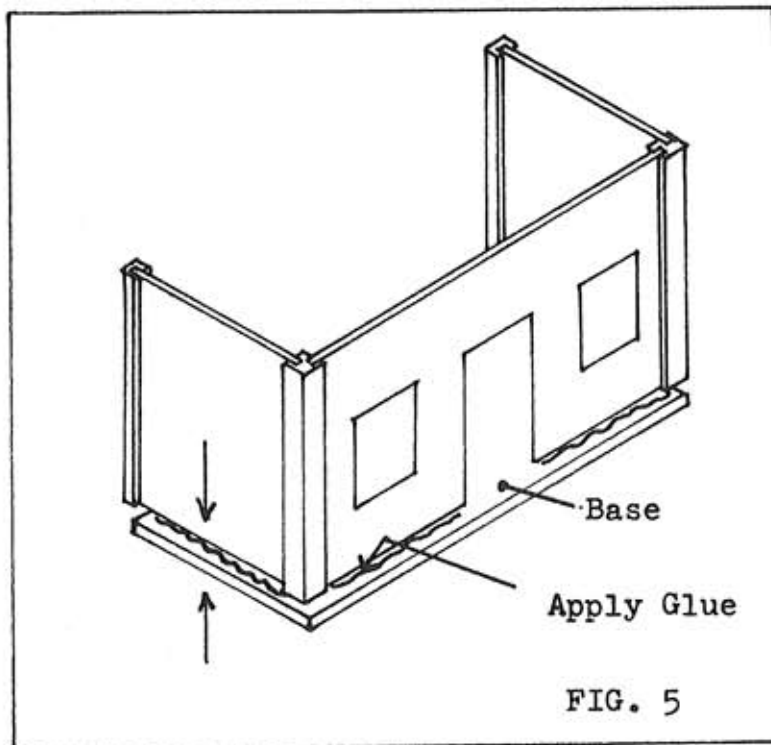

FIG. 5
13.) Fit the front and 2 side-wall sections together as in FIG 2, and set it on the base as in FIG 5.